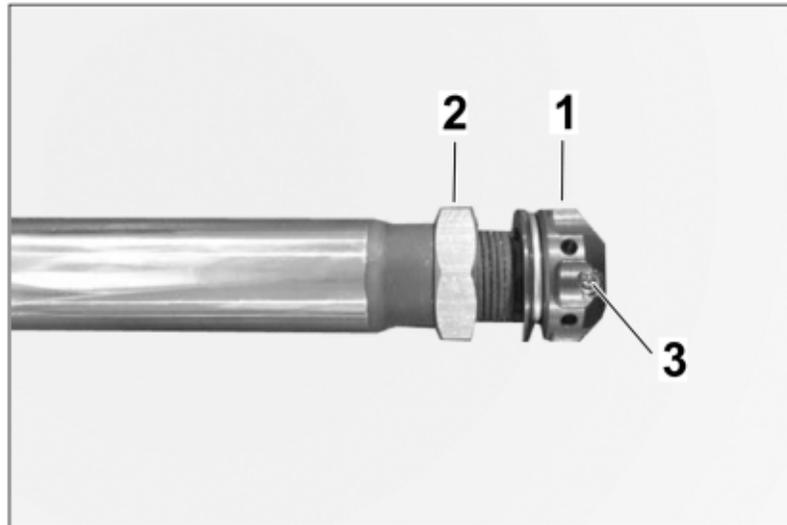

Figure 4
2. – Remove the adjustment wheel for the rebound adjustment from the new damper unit ⇒ *Figure 4 -1-* and the fastening nut ⇒ *Figure 4 -2-* of the damper housing. Do not completely remove the grub screw ⇒ *Figure 4 -3-* of the adjusting wheel. Only loosen it. Otherwise, it may get lost!